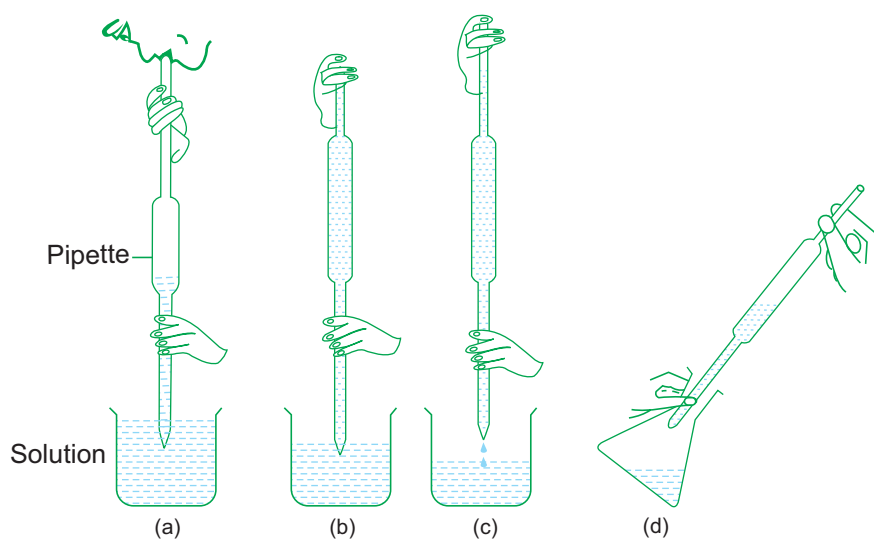

Fig.1.7. Measuring and transferring a solution with a pipette.
2. Suck the solution through nozzle by dipping it inside the solution. When the level of solution is just above the etched mark, remove it from the mouth quickly and close the upper end of the pipette with the forefinger of your right hand as shown in fig. 1.7. Now release the pressure of your finger slightly, so that the liquid begins to fall down till the lower meniscus of the solution touches the etched mark. Now close the pipette tightly and transfer the solution into titration flask by removing your finger.